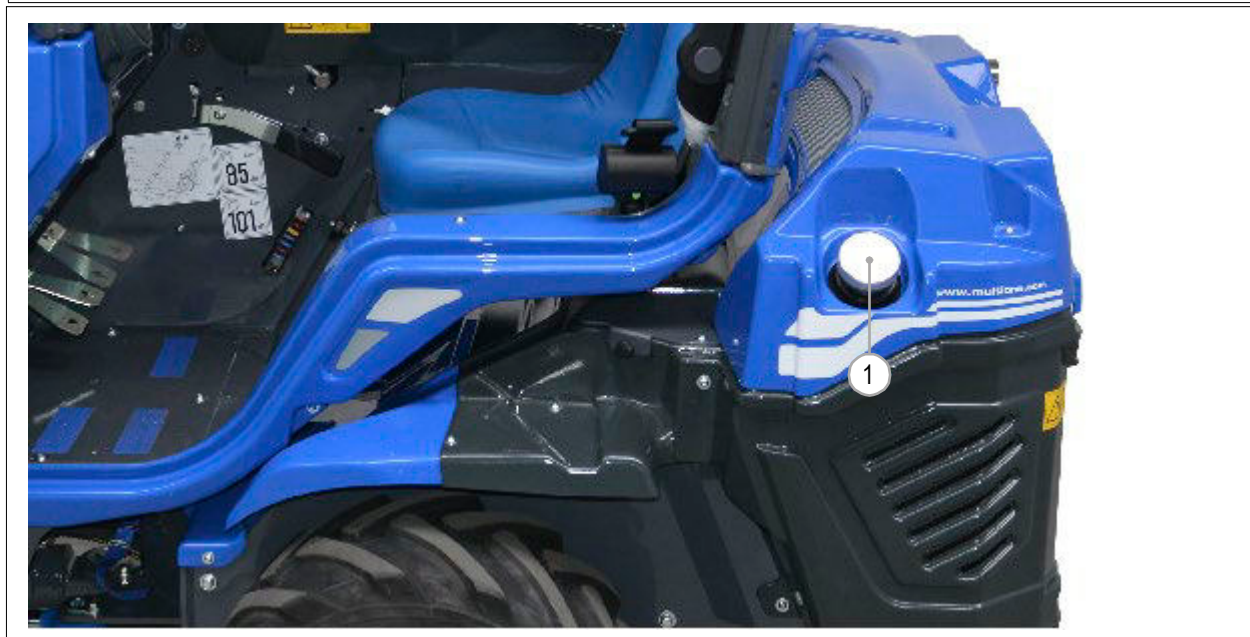

FIG. 34
- 3) Skru tankdækslet af (FIG. 34 - Ref. 1) mod uret.